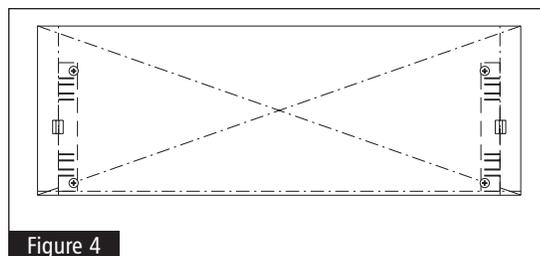

Figure 4
- 4** Measure up 1/8" from bottom edge of drawer front and draw a line parallel with bottom edge of the drawer front. Locate one DDF Fastener Female on each side of the drawer front with the edges on the inside of the lines along the sides and bottom of the drawer front, oriented as shown. Drill 3/32" diameter pilot holes, 3/8" deep and attach with screws provided. See Figure 4.